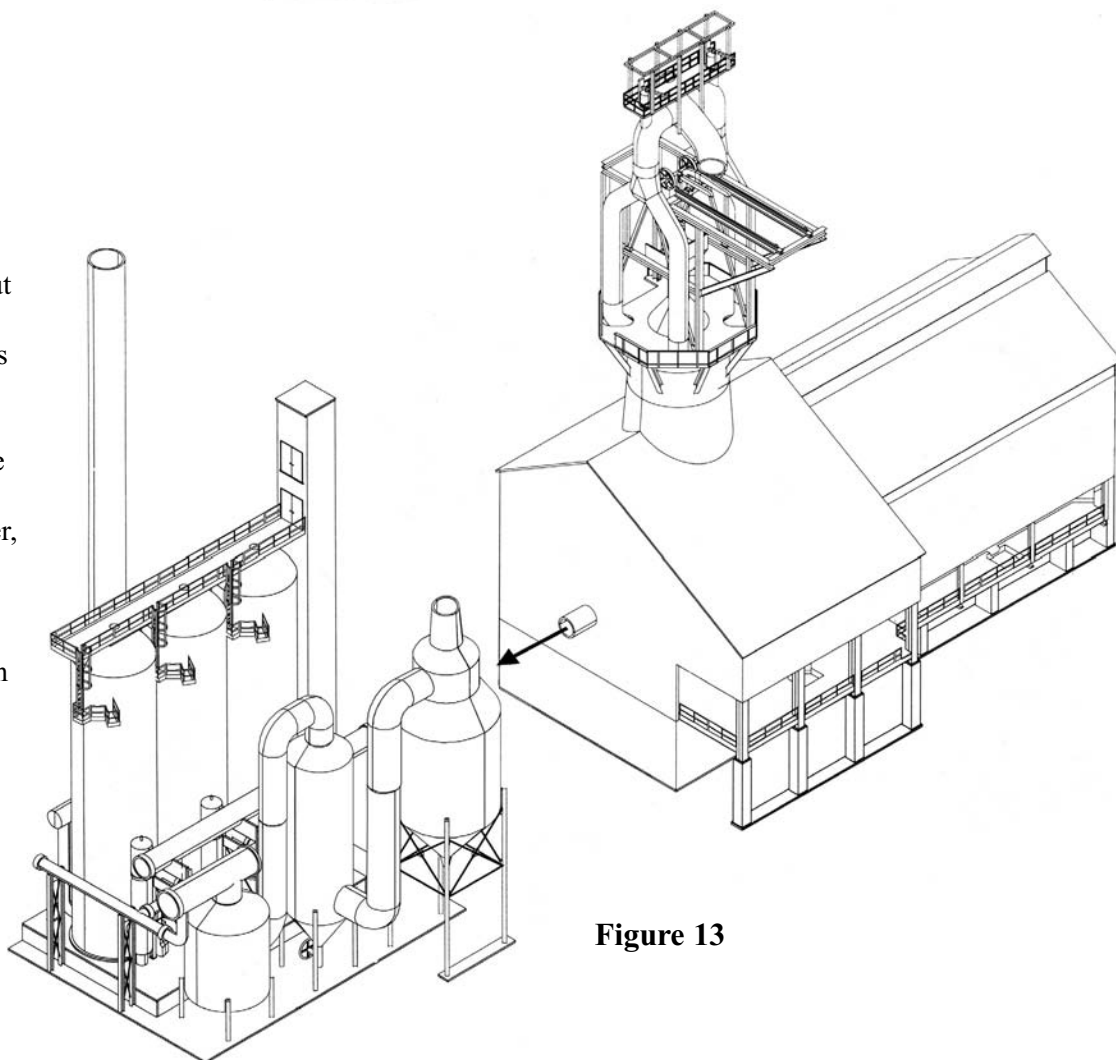

Figure 13
50. Cut out hole, as marked in inside, along edges of both halves of the precipitator (82). Then glue the halves together. Glue the precipitator pipes (91, 92, 111) coupling and/or 115 cap – depending on if you want to extend the pipe using piping kit 933-2958, available separately) together and then on top of the precipitator with the joint lines running in the same direction as illustrated. Glue the supports (86) in place. Place the bottom hole in the precipitator pipe over the clean gas pipe and glue the supports to the base.
51. Glue the gas washer halves (81, 81A) together. Glue the valve (84, 87) assembly together and then to the bottom of the washer. Glue the supports (85) in place. Glue the washer pipe (93A, 93B, 94A, 94B) together as shown. Place the lower end into the hole of the precipitator and the other end into the hole at the top of the washer. When all fit properly, glue the pipes in place and the supports to the base.
52. Glue the dust collector halves (80, 80A) together. Then glue the supports (83) and bracing (88) to the collector. Glue the small base (161) to the bottom of the two supports as illustrated.
53. Glue the collector pipe (89A, 89B, 90A, 90B) together. Note: The upper pipe section is at a right angle to the bottom one. Then place the bottom into the hole in the washer and the top into the hole in the collector. Make sure that the two supports, not glued to the small base, will rest on the main base. When all is aligned as shown in Figure 13, glue in place.